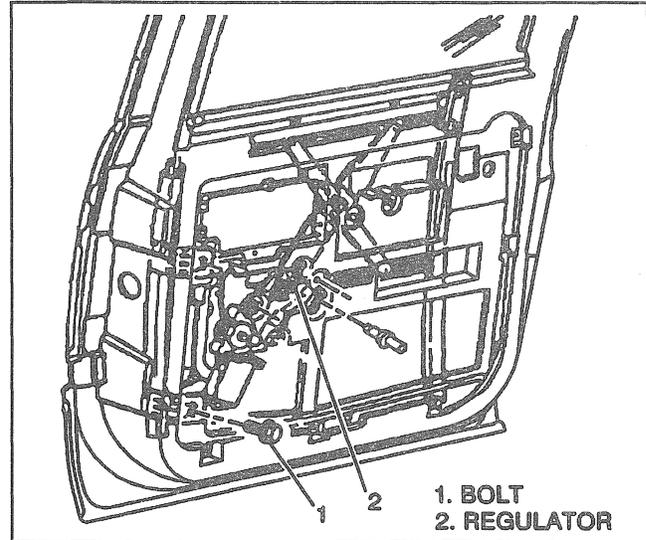

Figure 80—Rear Door Window Regulator Assembly
**Remove or Disconnect (Figure 80)**
Install or Connect (Figure 80)